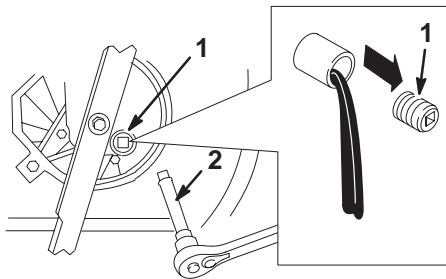

Figure 24
5. Remove the oil drain plug, return the lawn mower to its operating position, and allow the oil to drain into the drain pan (Fig 24).